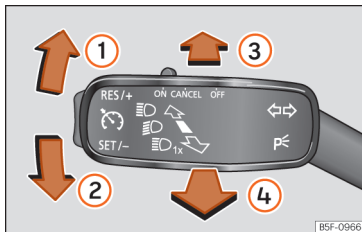

Fig. 109 Turn signal and main beam lever.
- From the base position, press the turn signal and main beam headlights lever forwards » **Fig. 109**  When the lamp  is displayed on the instrument panel display, the main beam assist is switched on.
- **OR:** while the main beam is on, pull the turn signal light and main beam headlights lever forwards » **Fig. 109** .